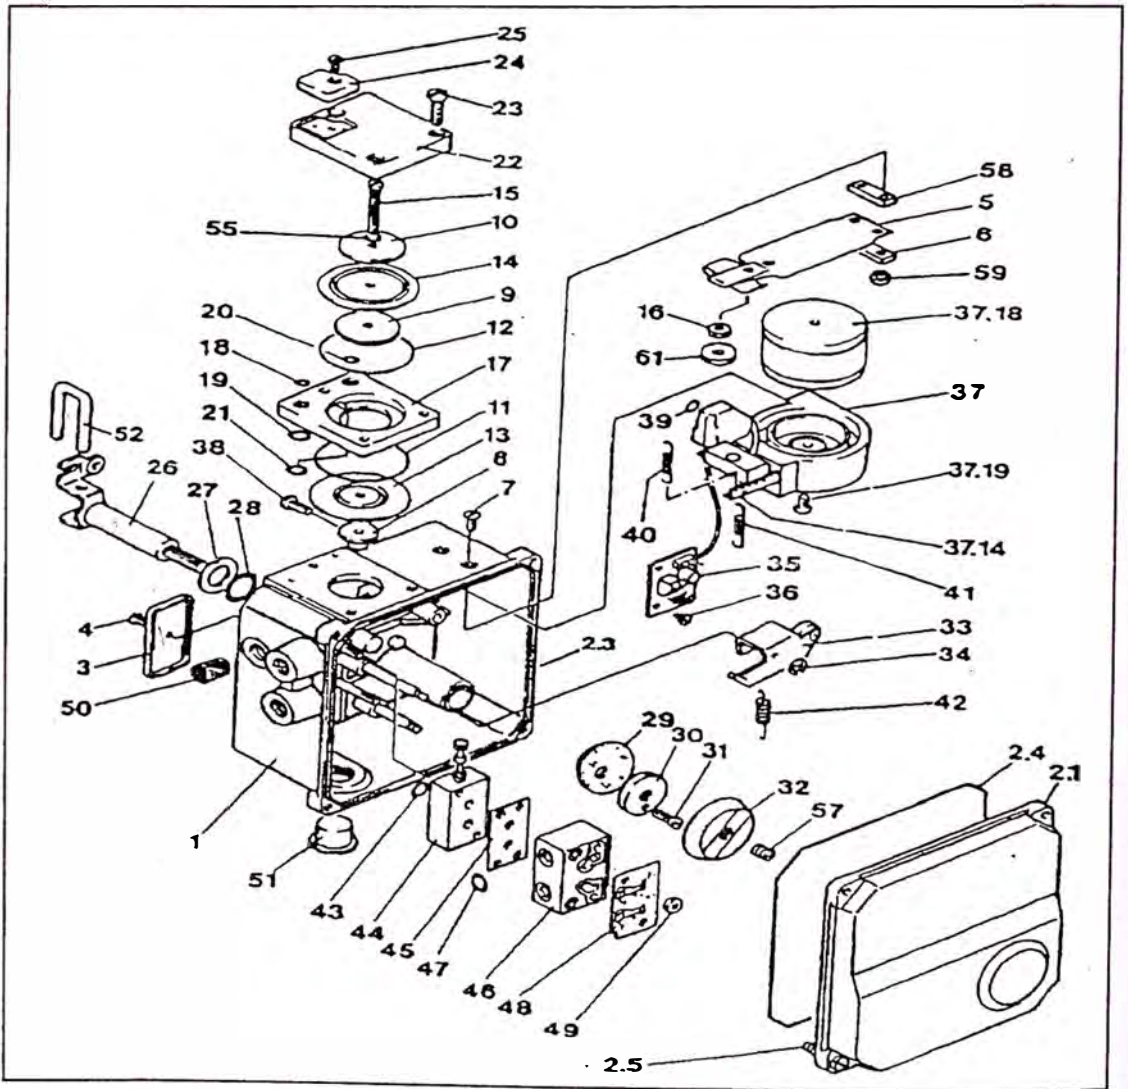

Figure 7
The terminal card assembly contains the span potentiometer, electrical filters and test points (See Figure 7 item 35). The electrical condition of the positioner can be measured without shutting down the compressor. Remove the pin jumper (upper right hand corner of terminal card). Using the exposed terminals attach a voltmeter and ammeter as shown in Diagram 1 to the pins to perform checks. See Table 1 for indications. Insure the jumper is correctly reinstalled at completion of tests.